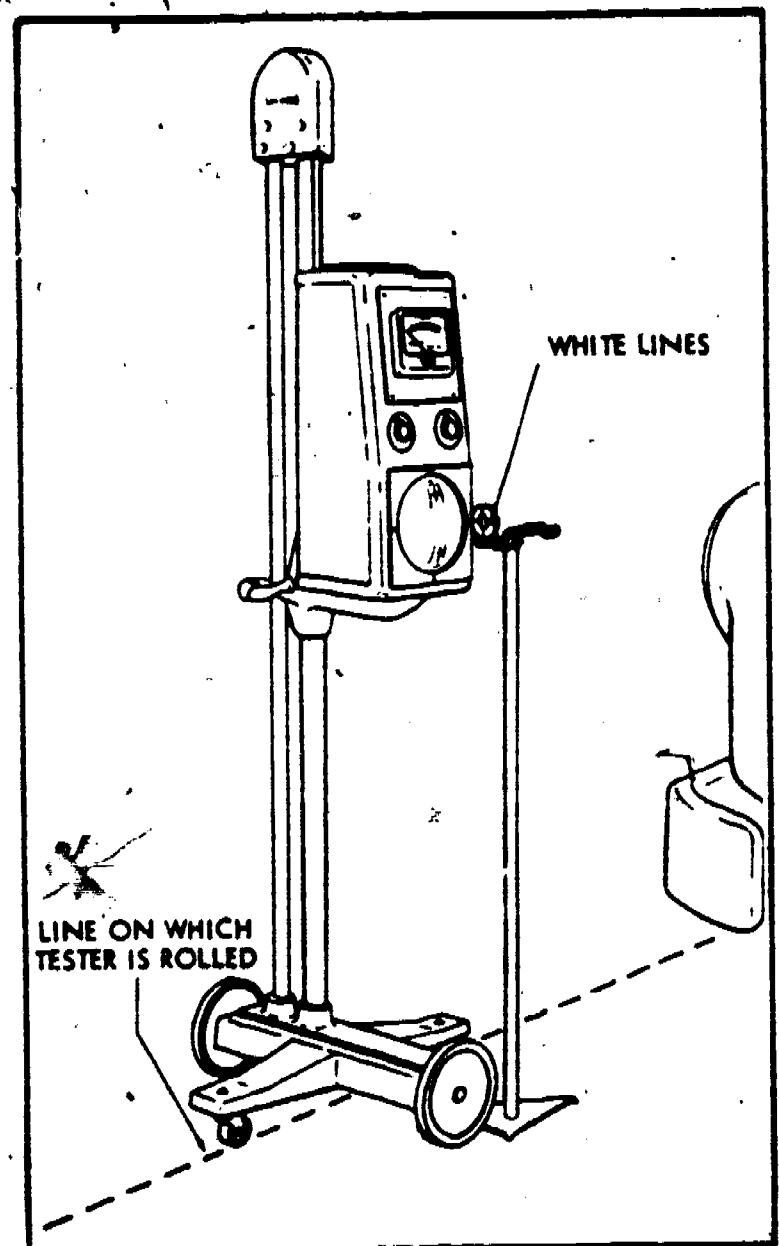

Figure 13. Setting Tester to Height of Calibrating Stand.
c. Place the calibrating stand in front of the tester as shown in figure 13. Grasp the handles on the case support. Raise or lower the tester case until the white horizontal line that is on the side of the lens frame is at the exact same height as the white line scribed on the flat circular portion at one side of the calibrating stand top.